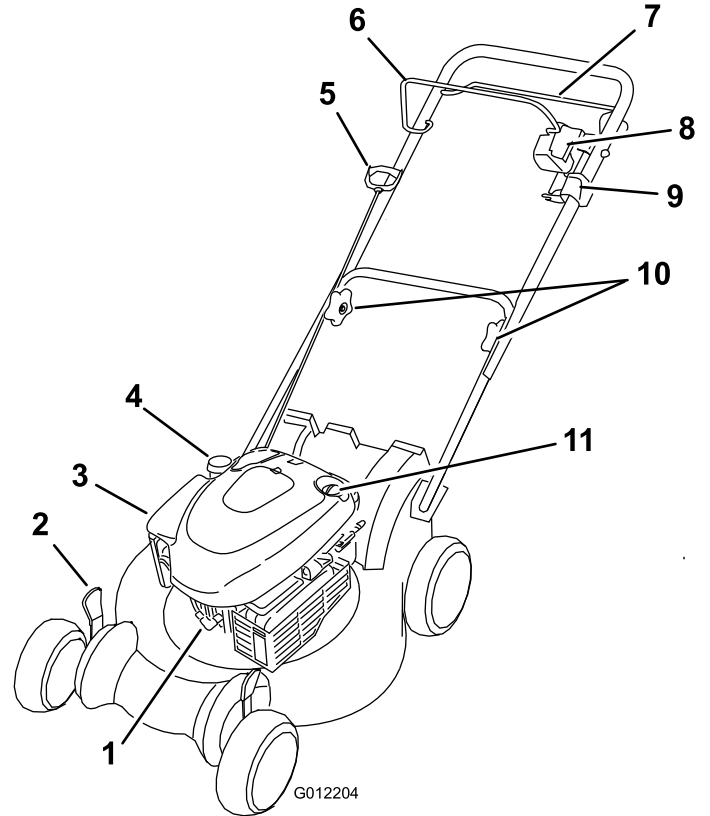

Figure 10
2. If the ignition switch on your mower (Figure 10) is a toggle switch (with both an “I” and a “Stop”), push the switch to the (“I”) position. Otherwise, go to step 3.
If the ignition switch on your mower (Figure 10) is a toggle switch (with both an “I” and a “Stop”), push the switch to the Stop position. Otherwise, hold down the ignition switch in the Stop position until the engine stops.